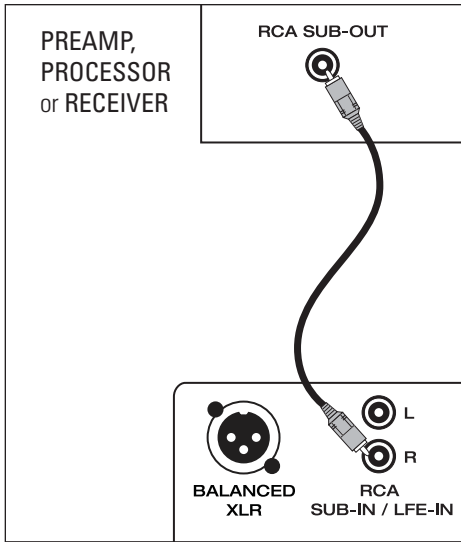

Fig. 4a
#### Line-Level RCA Input (Figs. 4a – 4b)
1. **Mono Input (Left, Right, or Sub-Out)** connects from the RCA (S/E) Sub/LFE—Output of your Preamplifier/Processor, A/V Receiver or other suitable line-level source (Fig. 4a).